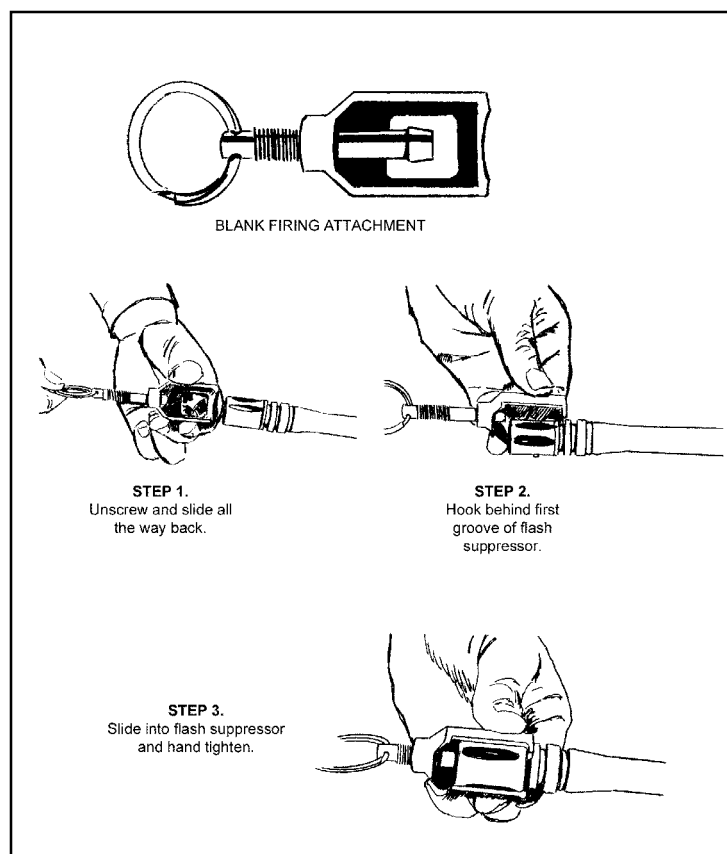

Figure 1-7. M249 blank firing attachment.
a. **Installation.** The BFA is attached to the M249 machine gun by using the three steps shown in (Figure 1-7).